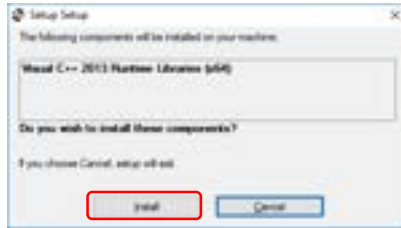

Fig 4-1 Visual C++ Run time Setup screen
3) The Visual C++ Runtime Setup screen such like Fig. 4-1 is displayed. Click “Install”